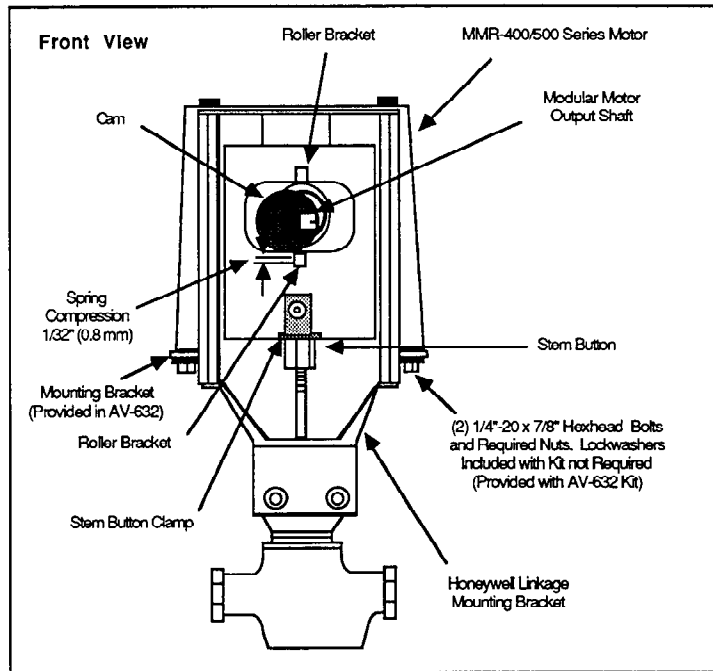

Figure 3. Honeywell Q618A Valve Linkage
8. Depress top roller of slide mechanism (See Figure 3).
9. Slip cam into linkage slide mechanism and loosely secure modular motor and adaptor bracket to motor mounting holes in Q618 linkage assembly with two (2) 1/4"-20 X 7/8" hexhead bolts.
11. Tighten the four (4) 1/4" motor mounting bolts securely.
12. Secure linkage to valve bonnet by tightening the two (2) setscrews.